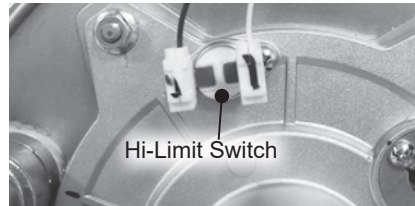

Figure 117 - Burner door hi-limit location
- 15** Locate the burner door hi-limit on the burner assembly as shown in Figure 117. Disconnect the two (2) wire leads from the hi-limit assembly and route them inside the water heater cabinet for ease of access to burner door.